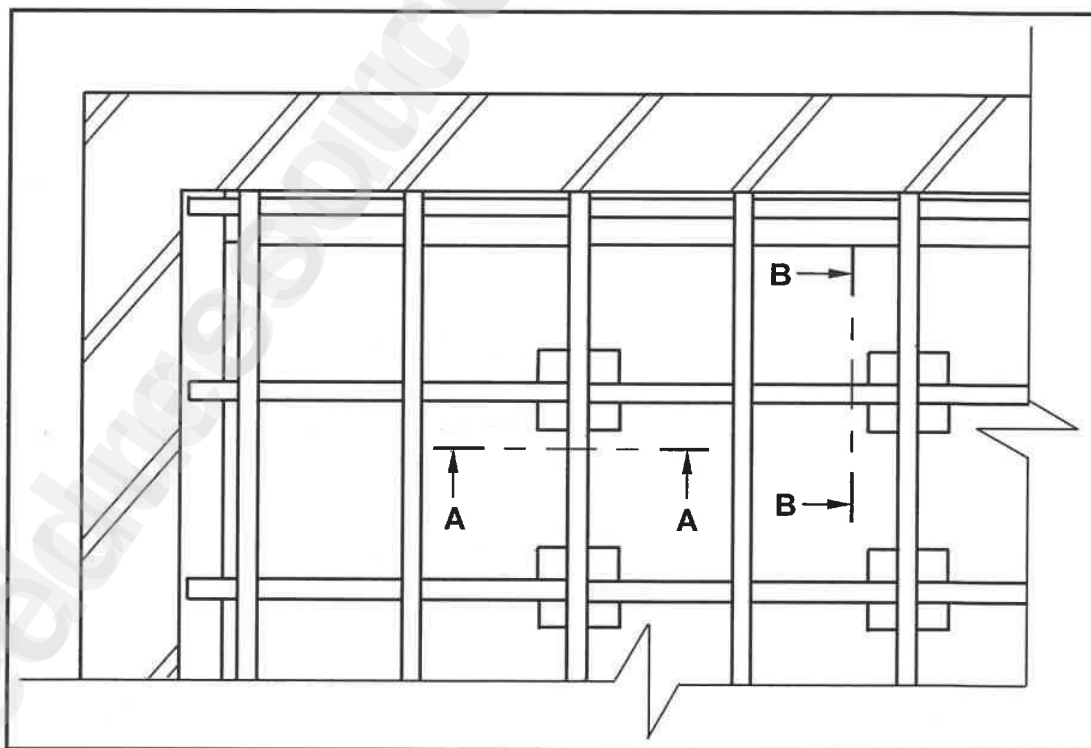

FIGURE 6.5
6.5 FIGURE 6.5 below shows the top view of part of a suspended timber floor with two cutting lines indicated. Use the detail on ANSWER SHEET 6.5 and complete the sectional views by differentiating between the sectional views as seen from A-A and B-B. Draw the floorboards on both sectional views.